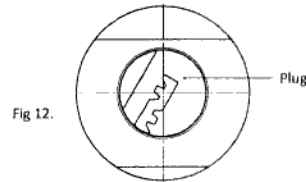
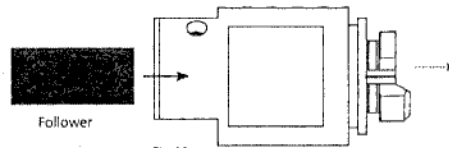

Fig 12.
Fig 12a.
**Note:** If plug removal is required rotate the plug to a safe removal position (Fig 12). Use a follower and carefully push the plug out (Fig 12a).
**Note:** Plug should be rotated to the insertion position as shown in para 10 fig 12.